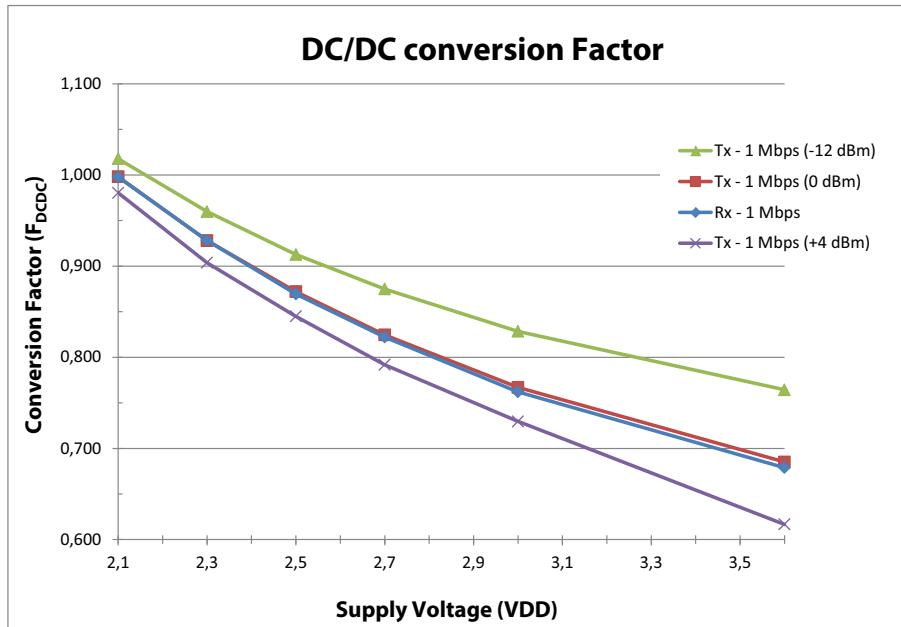

Figure 11 DC/DC conversion factor as function of VDD
4. F_{DCDC} will vary depending on VDD and internal radio current consumption (I_{DD}). Please refer to the *nRF51 Series Reference Manual*, v3.0 or later, for a method to calculate $I_{DD,DCDC}$. See **Figure 11** on page 51 for a DC/DC conversion factor chart.